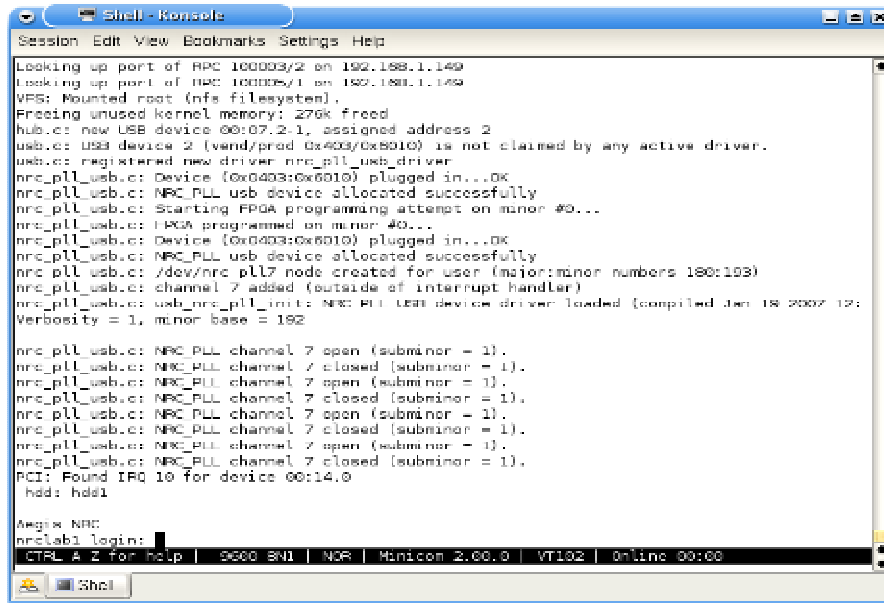

Figure 3- NRC Boot Up and Log In
6. Once this terminal is active the linux system and NRC boot-up messages will be echoed to the remote terminal. Once the NRC system has finished booting, a user login prompt will appear as shown in Figure 3.